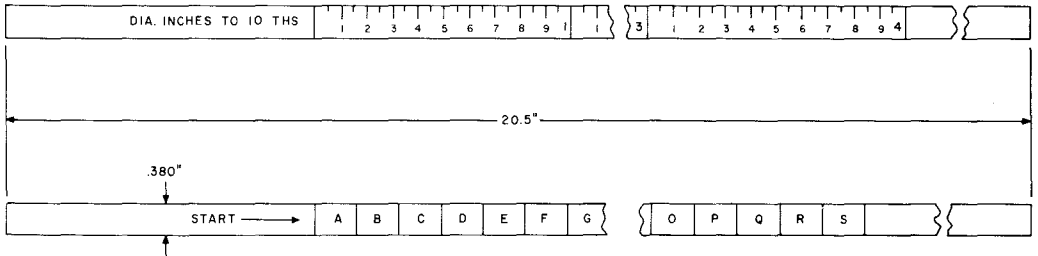

Fig. 4—B Measuring Tape
2.11 The B measuring tape (Fig. 4), made of flexible plastic, is used for measuring cable diameters. One side of the tape is calibrated to indicate cable diameters up to 4 inches, to the nearest one-tenth inch.
**3.03** Determine the diameters of the cables to be spliced, using the B measuring tape (Fig. 4) or Splice Case Guide, Form E-1805 (Fig. 5).